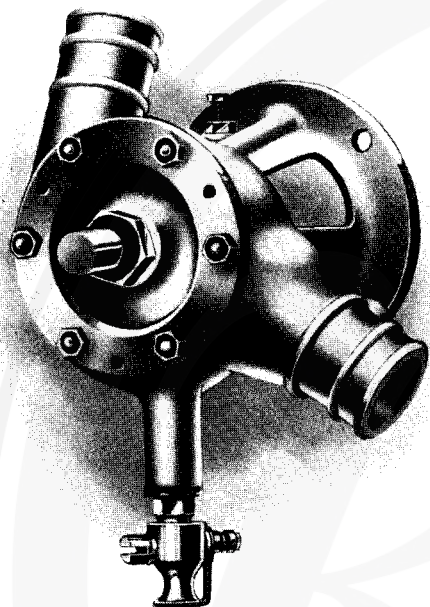

Fig. 9. Water Pump.
*Water Pump and Circulation.* The centrifugal water pump Fig. 9 is driven off one end of the cross shaft. The suction on the rotor is balanced by dividing the suction pipe and leading half of the feed water in on each side; by this arrangement the necessity for a packing gland is eliminated. In order to prevent leakage when standing the rotor is maintained in position against its seat by means of a spring loaded plunger. The pump spindle bearing is lubricated by oil thrown from the crankshaft, the oil supply being regulated by means of a small screw regulator. Delivery from the pump passes direct into the cylinder jacket and thence through the cylinder head to the radiator. Interposed between the cylinder head and radiator is a thermostat which automatically controls a valve, by means of which the water temperature is regulated and the engine attains an efficient temperature a few minutes after starting.